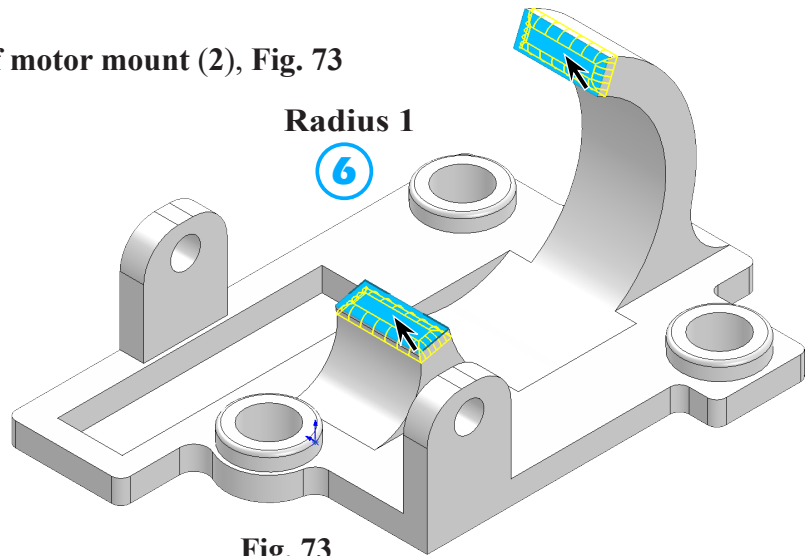

Fig. 73
- ⑥ Radius  1
click both top faces of motor mount (2), Fig. 73